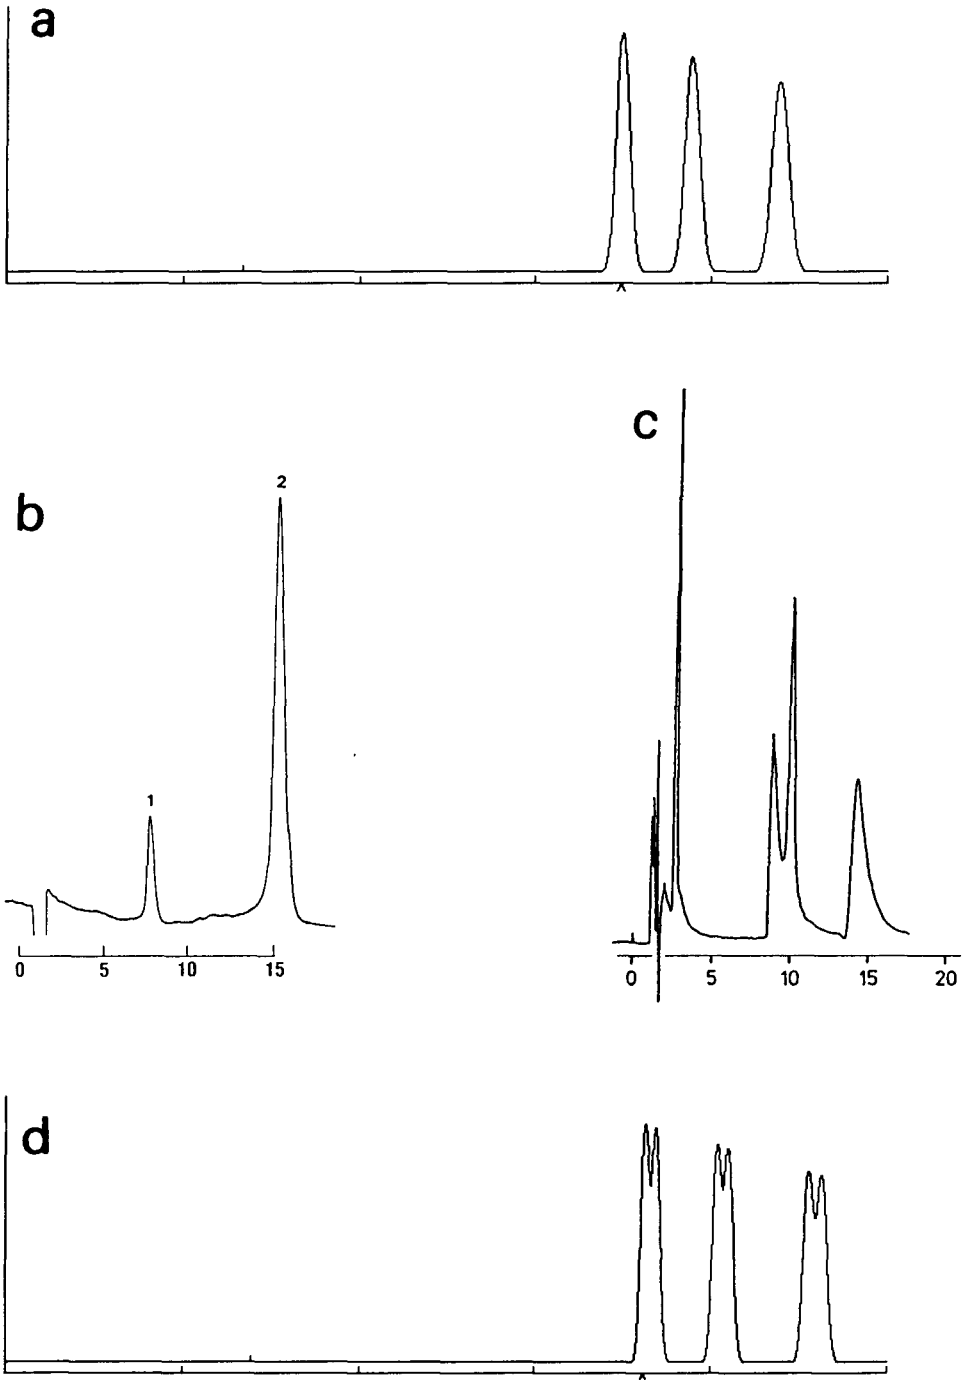

Fig. 1.
The most important skill in column maintenance is the ability to recognize that a problem exists. Typical signs of column degradation are changes in system pressure, peak shape, band retention, selectivity, and/or efficiency [1,2]. Examples of these symptoms are shown in Fig. 1. Although each of these can be indicative of a deteriorating column, they can also be caused by non-column problems, including mobile-phase contaminants, poor gradient reproducibility, extra-column volumes, temperature changes, secondary retention effects, and/or sample degradation.
Fig. 1. Examples of non-ideal peak behavior due to column problems. (a) Normal column performance; (b) fronting peaks (from ref. 10, with permission); (c) tailing peaks (from ref. 11, with permission); (d) split peaks; (e) broadened peaks; (f) change in retention; (g) change in selectivity. Time scales in min.
Despite rigorous attention to preventive maintenance, all LC columns age with use. Column aging is characterized by changes in: (a) system backpressure, (b) peak shape, (c) band retention, and/or (d) selectivity. It is important to properly identify the nature and extent of the problem (*e.g.*, consider Fig. 1).
Column degradation should be suspected when changes in peak shape (such as those shown in Fig. 1) occur, which are not related to sample, method, or system problems discussed earlier. It is important to validate these using the appropriate test protocol. Because a change in peak shape often is due to a void in the LC column packing bed, the first action should be removal of the inlet fitting and inspection of the packing bed. Reversing the flow and backflushing the column may cause a void to shift and destroy a well-packed column bed, so it is best to inspect the top of the column first. If a void is found, replace the column. Filling a column void is seldom cost-effective. (If it is necessary to fill a void, use the technique of ref. 7 in which the void is filled and then the column is reversed before use.) If no void exists, replace the inlet frit, reassemble the column, and test using the appropriate validation protocol. If the column fails to return to an acceptable level of performance, replace it.